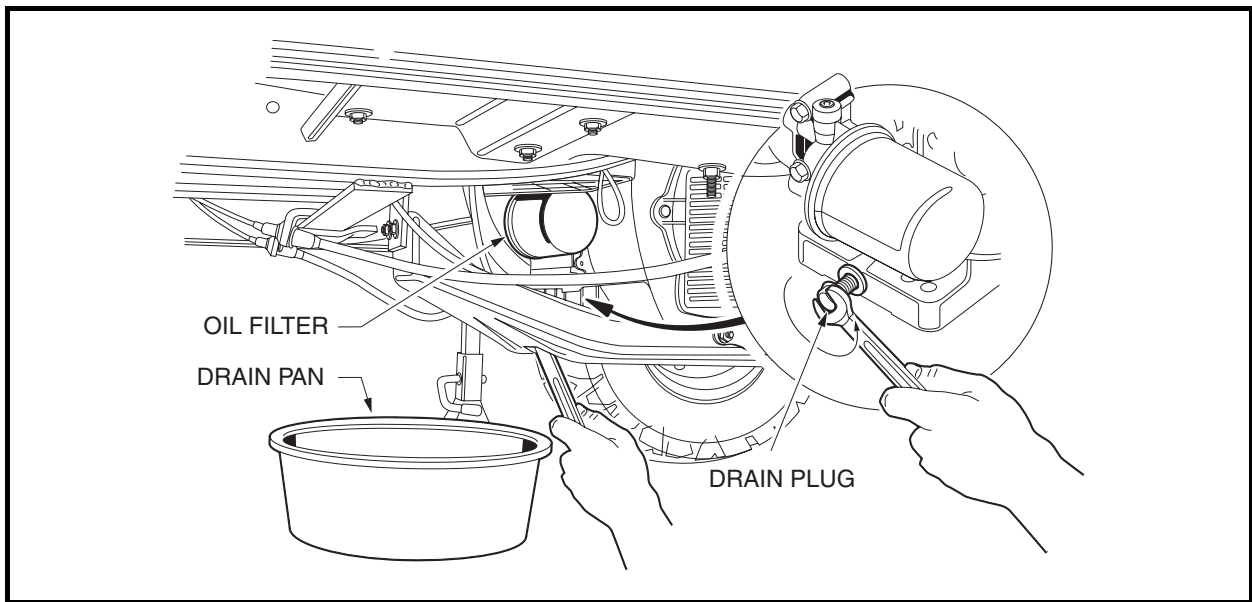

Figure 28 Engine Oil Drain Plug and Pan
4. Position a pan designed for oil changes under the front drain plug (**Figure 28**).
8. Relocate the oil drain pan to a position under the engine oil filter (**Figure 28, Page 43**).
NOTE: An oil drip guard can be used to prevent excess oil from dripping into the engine base place. Use an empty quart (one liter) container and cut the bottom off at an angle, then slide the open area of the container up and under the oil filter prior to removing. Position the port of the plastic container so oil will be directed into the oil pan (**Figure 28**). Or, make a drip guard by folding a piece of cardboard, thin metal, or plastic under the oil filter forming a channel to direct the filter port oil into the drain pan.